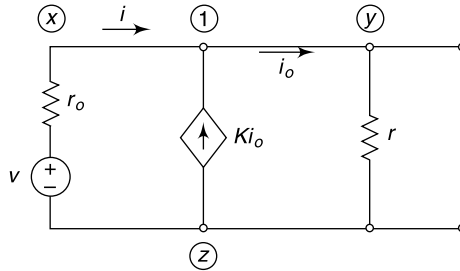

Fig. 4.161 Circuit of Ex. 4.130
4.130 Find Thevenin's equivalent for the given circuit in Fig. 4.161.